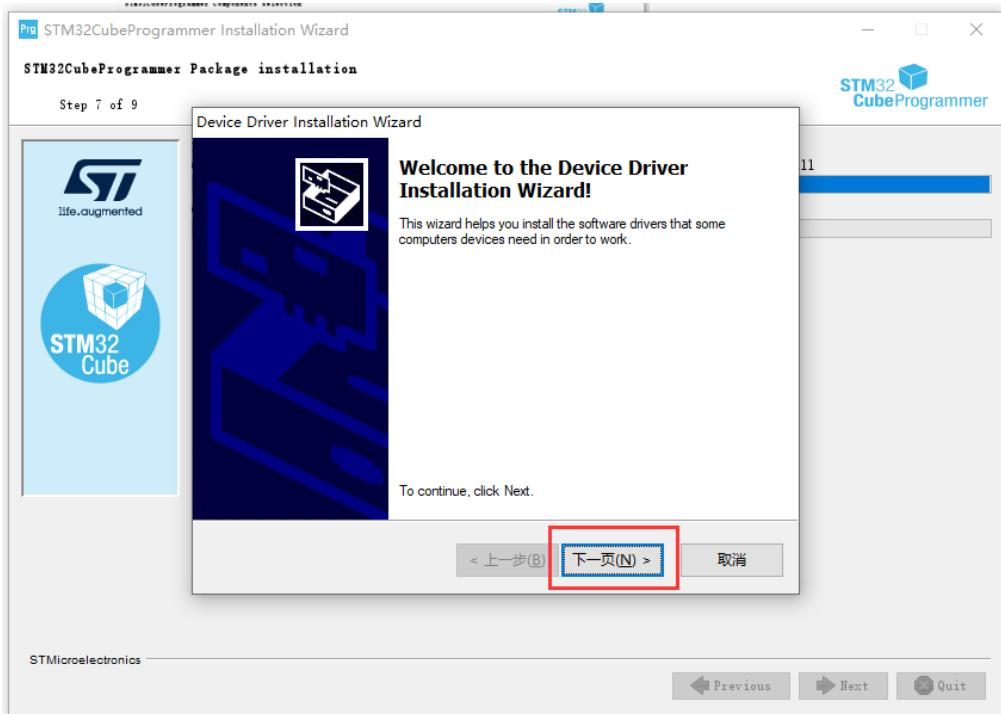

Figure 8-7
- 8) At this point, SetupSTM32CubeProgrammer starts to install automatically and a confirmation dialog box pops up, as shown in Figure 8-7, click Next: